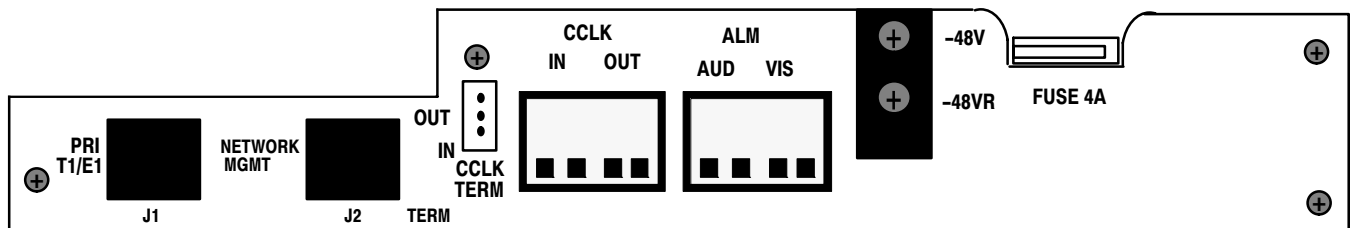

Figure 1. 360-80 Terminal Block
1.	Connect the audio and visual alarm leads to the removeable connector on the back of the ICB shelf. Reference the Shelf documentation for the proper procedure. Figure 1 displays the shelf rear panel.
3.	Locate the power terminal block on the rear (see Figure 1) of the ICB. Using a voltmeter connect the – (common) test lead to –48VR screw terminal. With the + test lead, measure the voltage at the –48V terminal. The voltage should be between –44 and –56 VDC. If voltages are not correct, inspect wiring for proper polarity, and/or check power source for proper settings (or output) and correct as required.